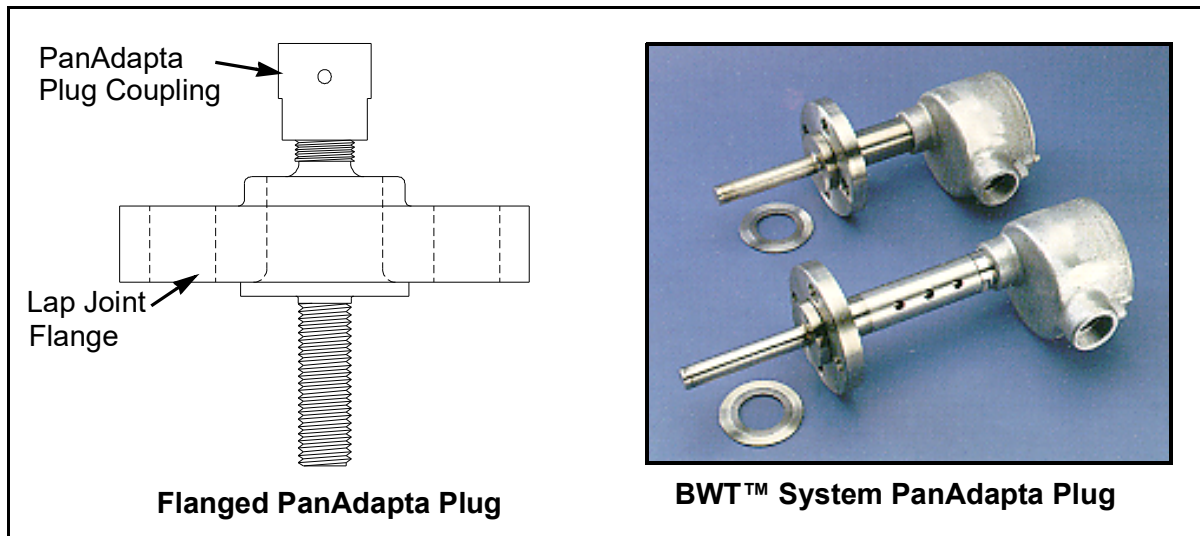
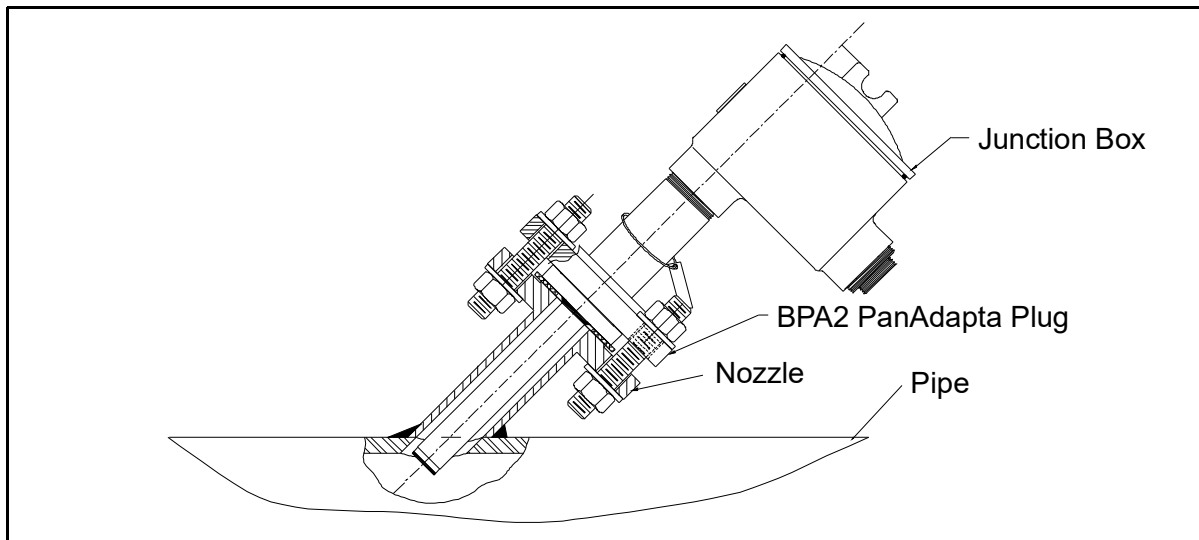

Figure 22: Types of Flanged PanAdapta Plugs
Figure 23: Flanged PanAdapta Plug in Flowcell Nozzle
2. Bolt the flanged PanAdapta plug to the nozzle (see Figure 22 and Figure 23 on the next page). Tighten the flange bolts using the appropriate torque for the installation.